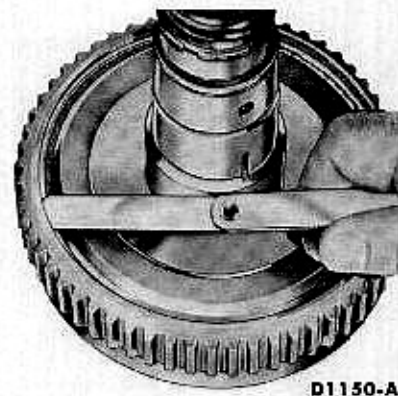

FIG. 8—Checking Output Shaft Snap Ring Clearance
6. If either the output shaft or ring gear has been replaced, place the assembled unit with the gear face down on the bench, push the shaft downward, and check the clearance between the top of the snap ring and its groove (Fig. 8). If this clearance exceeds 0.002 inch, replace the snap ring with a thicker ring to reduce the clearance to less than 0.002 inch. Selective snap rings are available in several thicknesses for this purpose.